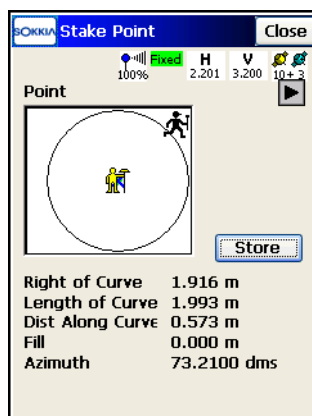

Figure 9-19. Stakeout Curve
4. For GPS+: use the information on the Stakeout *Curve* screen to find the target curve (Figure 9-19). Tap **Store** after the point is close enough to the curve and at the desired distance from the starting point.